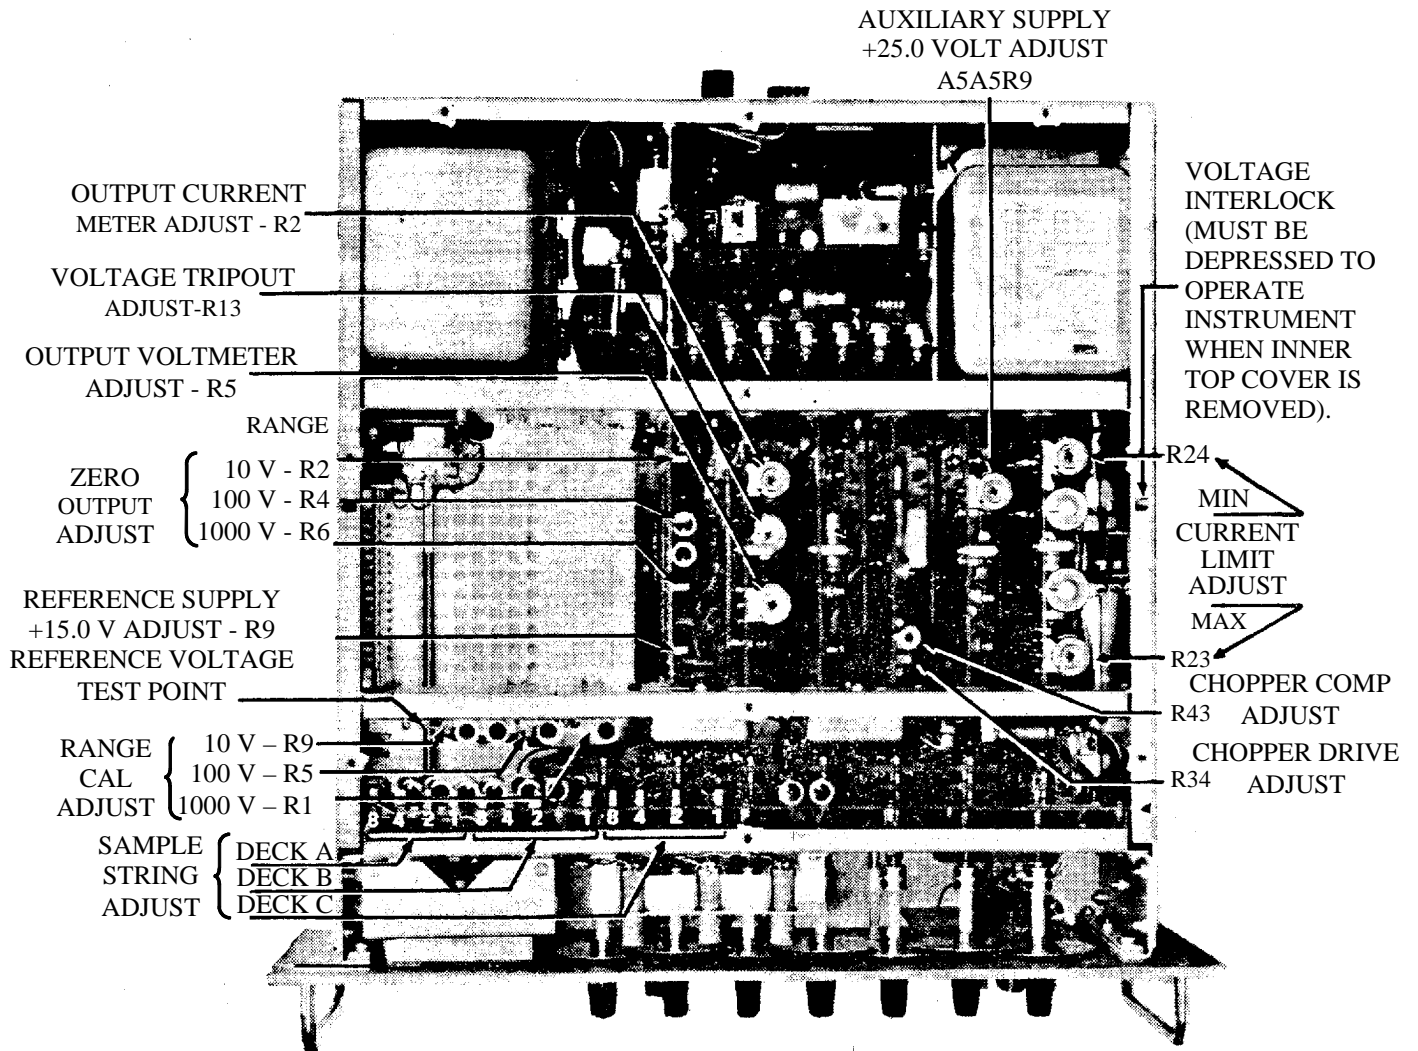

Figure A-1. Location of Adjustments
A.1 Adjustments Access: Certain adjustments are necessary during the calibration process while the TI is in operation. Remove the covers from the TI just far enough, as required, to gain access for: the Range-Zero-Output-, the Sample-String-, and the Range-Cal adjustments. Refer to Figure A-1 for the location of adjustments.
A.2.4 Set the TI range switch to each of the TI voltage ranges. At each TI voltage-range position, adjust the TI corresponding ZERO-OUTPUT-ADJUST range control to establish a null indication within $\pm 1 \mu\text{V}$ on the null detector. Use only insulated screwdrivers or plastic alignment tools when performing the adjustments. Refer to Figure A-1 for location of the adjustments.
A.3.7.3 Set the null detector OPR-ZERO switch to OPR. Make the indicated adjustment to establish a detector null indication within the tolerance limits listed, increasing the detector null-range sensitivity as required. Refer to Figure A-1 for the locations of the TI RANGE-CAL or the TI SIMPLE-STRING-ADJUST potentiometers.
A.3.10 Set the A-B switch (item 2.8) to position A, repeat steps A.3.2 and A.3.3; then, set the null detector OPR-ZERO switch to OPR.